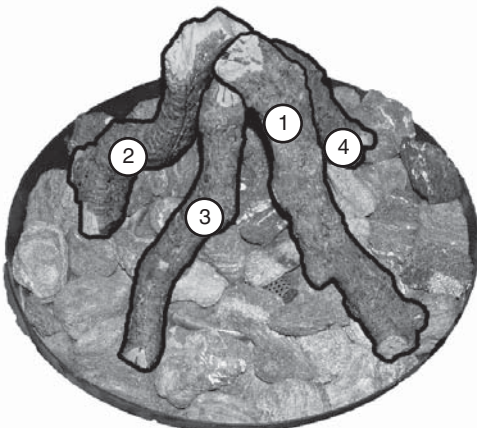

Fig. 19-4
1. Place the ends of three or four logs into the volcanic stones with their flat sides facing inward and their tops pointed upward. Then lean their other ends against each other at an angle in the center of the fire ring (see Fig. 19-4).